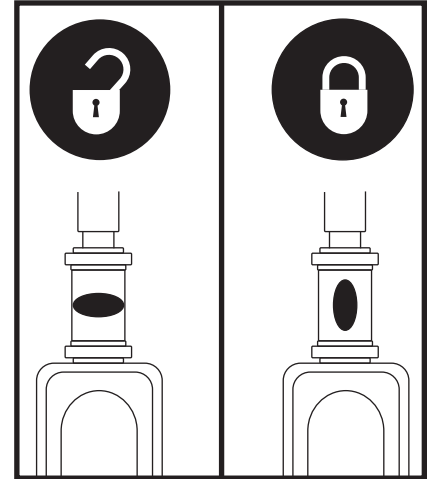

Figure 31. Tiller Lock Knob
2. Lock the tiller in the straight ahead position by pushing the tiller lock knob in and turning it clockwise 90°. **See figure 31.** The front wheel must face forward in order to lock the tiller.
1. Remove the key from the key switch and then lock the tiller in the straight ahead position by pushing the tiller lock knob in and turning it clockwise 90°. **See figure 31.** The front wheel must face forward in order to lock the tiller.
6. Unlock the tiller by turning the tiller lock knob 90° counterclockwise. **See figure 31.**